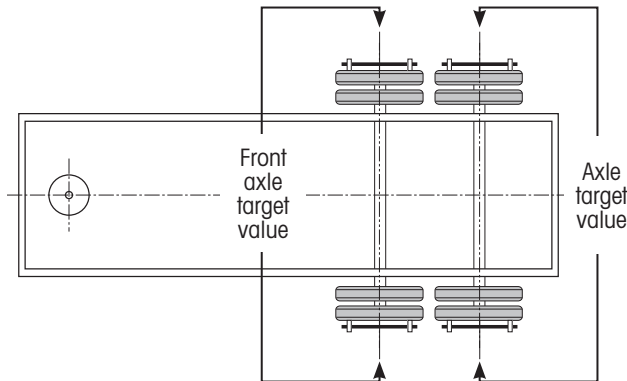

Figure 38: Point-to-point measurement for target values
1. **Measure** the point-to-point width of the installed wheel-end extenders (Figure 38).